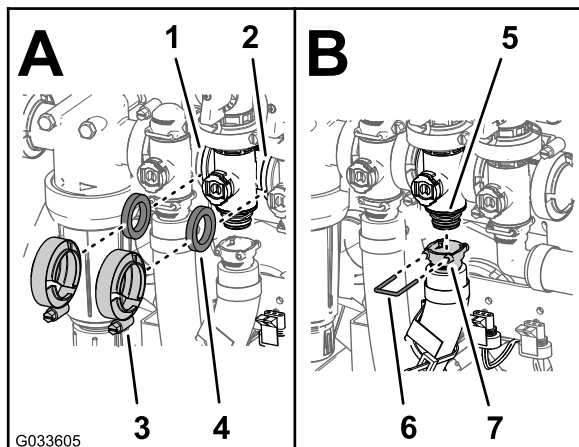

Figure 125
2. Assemble the agitation bypass valve, gasket, and agitation-valve manifold with a flange clamp and tighten by hand (Figure 125).